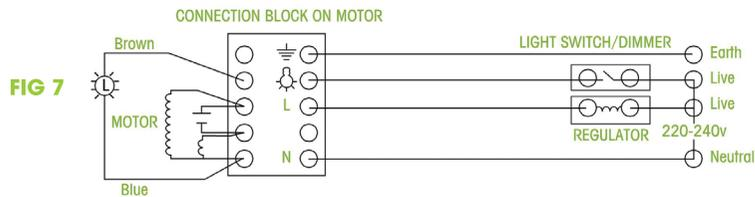

FIG 7
2.3.3 Under light connection (FIG 7&8)